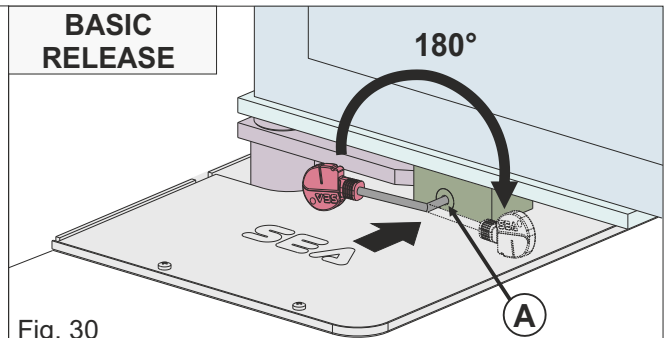

Fig. 30
- insert the supplied Allen key in the slot «A» and turn 180° towards the center of the gate (Fig. 30)